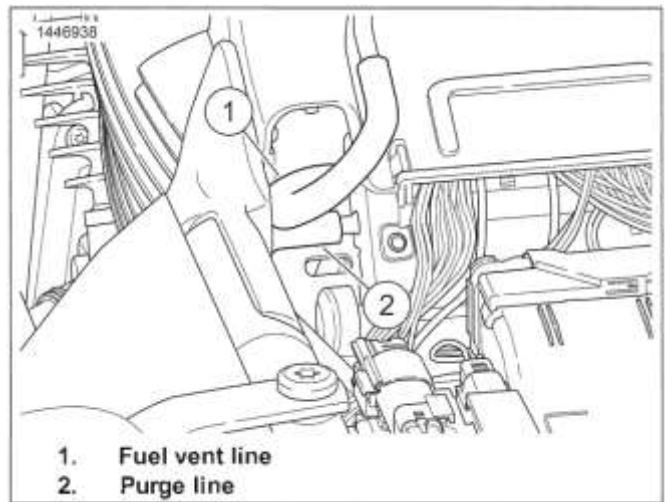
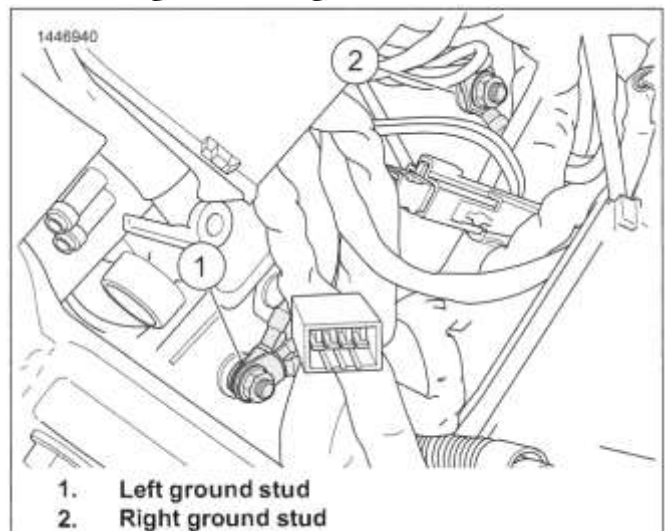

Figure 6-41. Purge Line Connections
Figure 6-42. Chassis Ground Studs
1. See Figure 6-41. Remove vent lines.
- a. Disconnect purge line (2) from canister fitting marked "PURGE."
- b. Disconnect fuel vent line (1) from canister fitting marked "TANK."
2. See Figure 6-42. Remove ground ring terminals.
- a. Remove three ring terminals from left ground stud (1).
- b. Remove two ring terminals from right ground stud (2).
2. See Figure 6-42. Install ring terminals.
- a. Install three ring terminals on the left ground stud (1).
- b. Install two ring terminals on right ground stud (2). Place battery chassis ground terminal on stud first.
3. See Figure 6-41. Connect lines.
- a. Connect fuel vapor vent line (1) to upper fitting marked "TANK."
- b. Connect purge line (2) to lower fitting marked "PURGE."